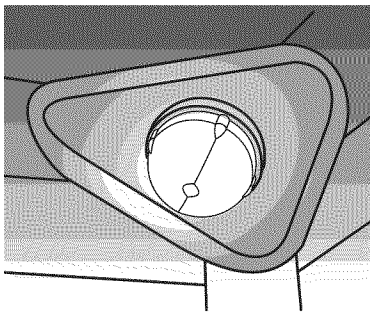
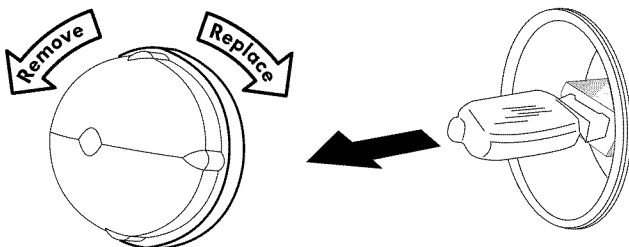

Figure 54: Upper oven round halogen light
Figure 55: Replacing the upper oven round halogen light
The round halogen oven light is located in the upper oven, at the rear of the oven cavity and is covered with a glass shield held by a wire holder (Figure 54). The glass shield protects the light bulb and must be in place whenever the oven is in use (Figure 55).
2. Remove light shield by turning a quarter turn counter-clockwise (Figure 55).